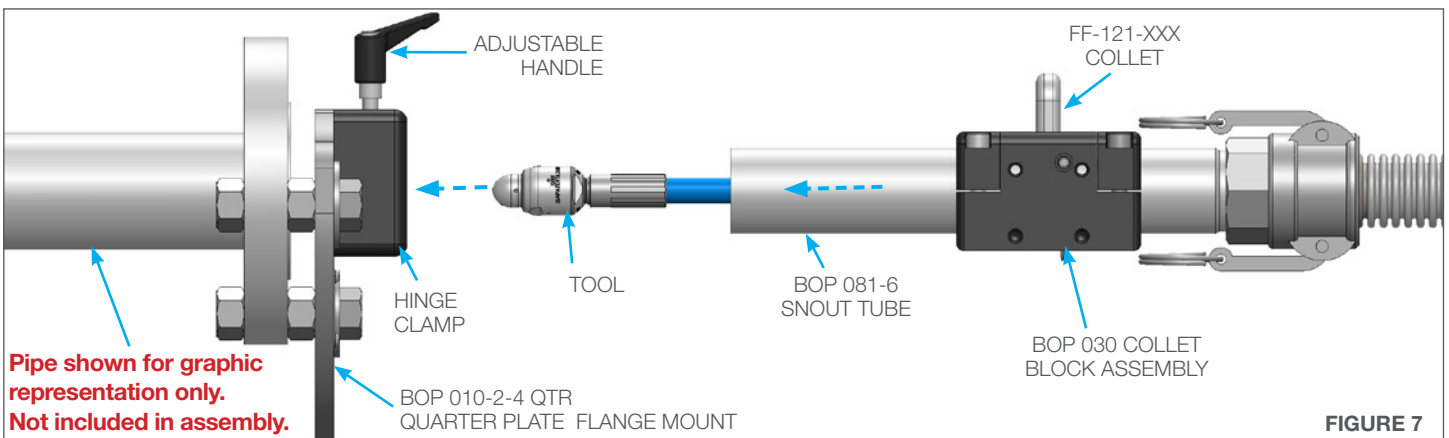

FIGURE 7
- Attach desired tool onto the male hose end (Stoneage® Beetle® shown for reference). SEE THE APPLICABLE TOOL MANUAL FOR INSTALLATION INSTRUCTIONS. Loosen the adjustable handle on the Hinge Clamp. Feed the high pressure hose with tool and Snout Tube into the Quarter Plate Flange Mount. Tighten the adjustable handle to secure. **(Figure 7)**
- Attach desired tool onto the male hose end (Stoneage® Beetle® shown for reference). SEE THE APPLICABLE TOOL MANUAL FOR INSTALLATION INSTRUCTIONS. Connect the Male and Female Positioner Arms. Select the appropriate positioning holes and insert the Quick Release Pin through both arms. **(Figure 7)**